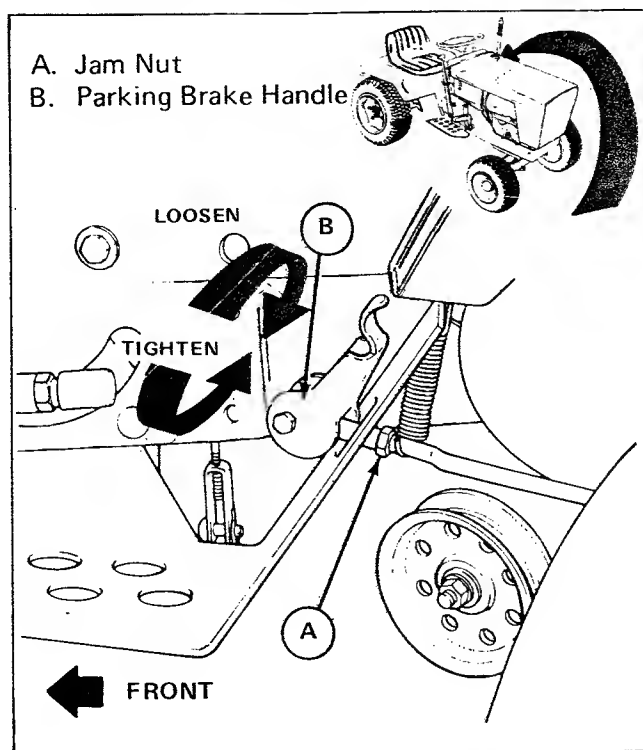

Figure 19. Parking Brake Adjustment
1. Loosen jam nut (item A, figure 19).